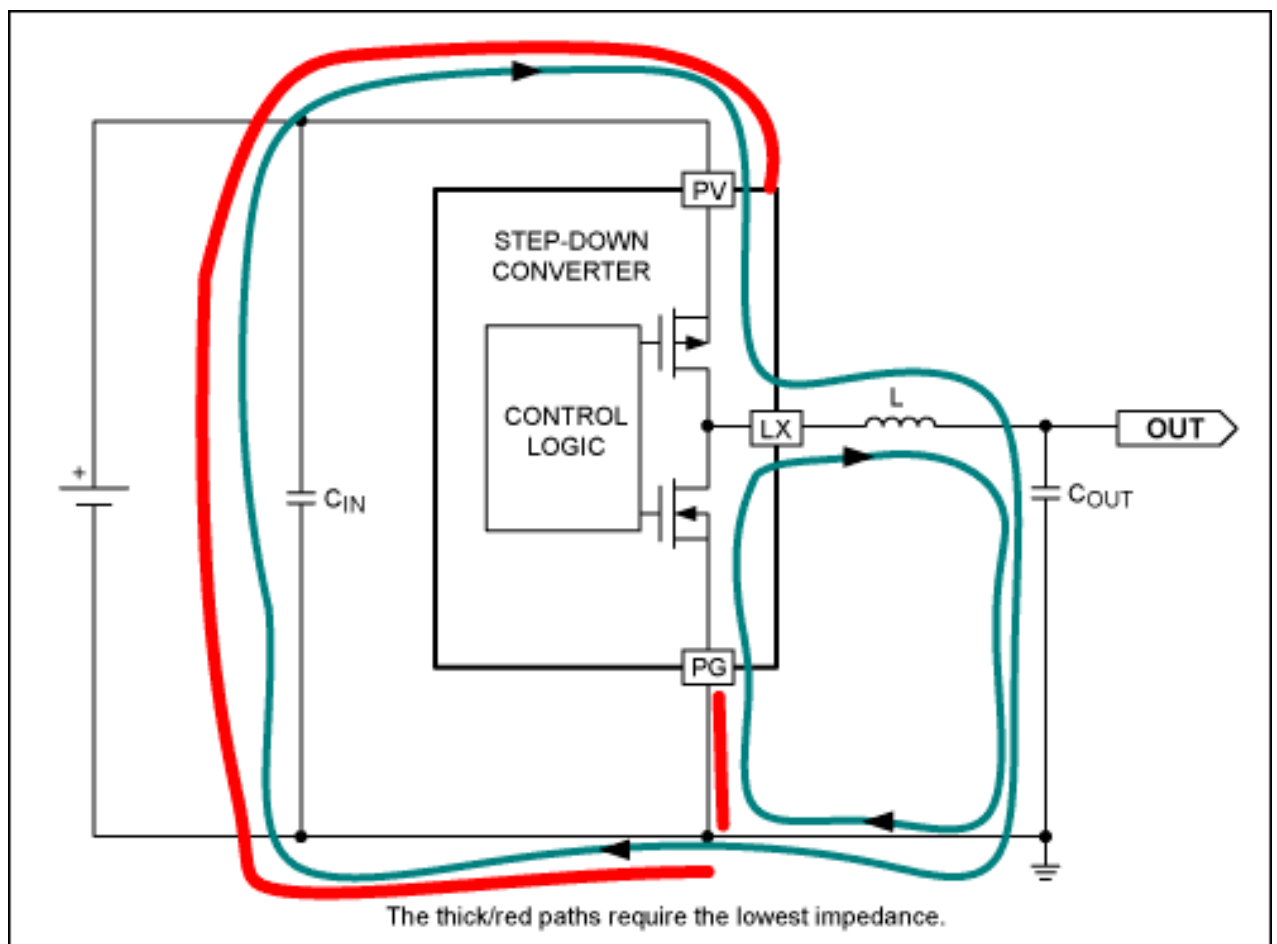

Figure 1. Step-down converter current loops.
- Minimize the electrical length and loop area of the current paths shown in **Figure 1** and described below. Minimizing the electrical length of these paths reduces parasitic resistance; minimizing loop area reduces radiated noise.